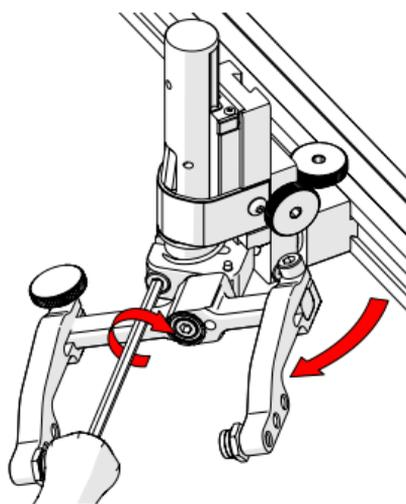

Fig. 75 - Rotate and tighten
3. Tighten the transverse adjustment screw (Fig. 75).